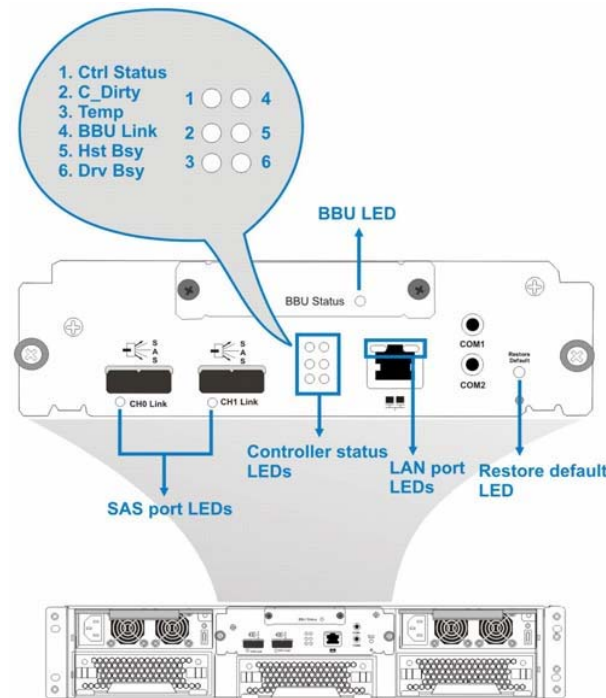

Figure 4-5: Controller LEDs
The controller faceplate is shown in **Figure 4-5**. Different types of LEDs are present and described in the following sub-sections.
Each controller module houses two (2) SAS 4x wide host ports. Each of these SAS ports has one (1) LED (see **Figure 4-5**) for displaying the operating statuses.
A restore default LED is located above the restore default push button on the lower right corner of the controller faceplate. (See **Figure 4-5**) To restore firmware defaults, press and hold the button down before powering on the subsystem. Once the factory defaults are successfully restored, release the button after the restore default LED lights green.